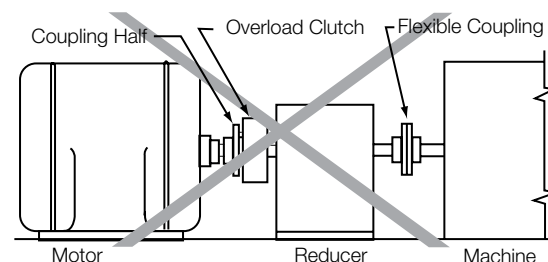
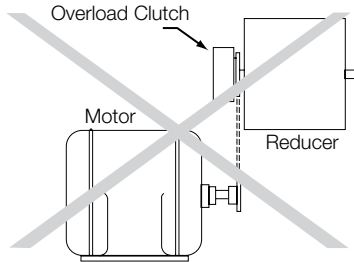

Figure 7
Figure 9
- b. Locating the clutch as shown in Figure 7 is **not preferred**. Here, the clutch is mounted on the high-speed side of the reducer. Generally, mounting in this manner requires the clutch to be hypersensitive to perform satisfactorily.
- b. The mounting location in Figure 9 is **not preferred** for the same reasons as those for Figure 7. Always consult the factory when a mounting of this type seems necessary.